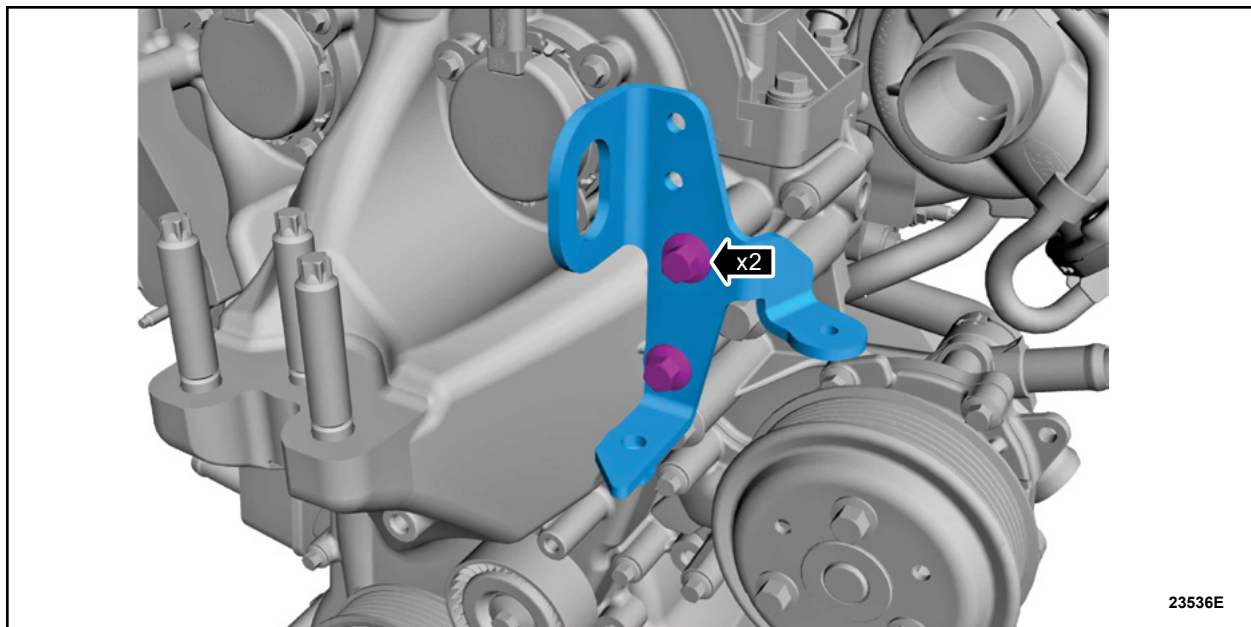

FIGURE 5
11. Remove the bolts and the lifting eye. See Figure 5.